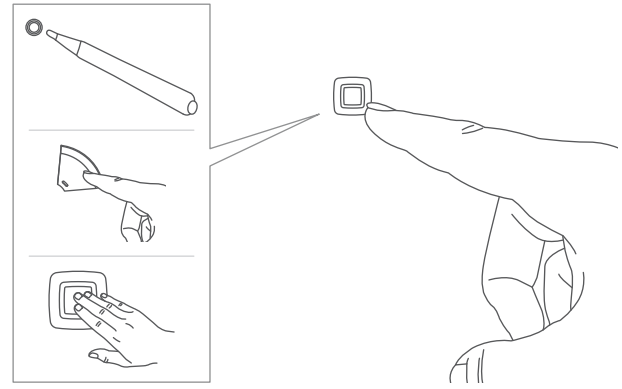

Figure 2
- Press and hold the system button for 4 seconds Fig. 2 and insert the battery at the same time. Pay attention to the correct polarity marking